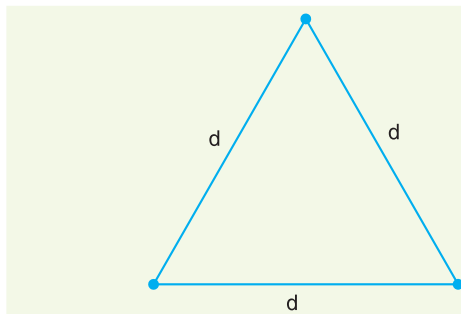

Fig. 9.11
**Solution.** Fig. 9.11 shows the three conductors of the three phase line placed at the corners of an equilateral triangle of each side 2 m. Here conductor spacing  $d = 2$  m and conductor radius  $r = 1.24/2 = 0.62$  cm.